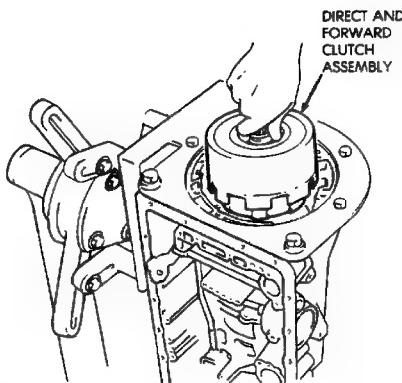

Fig. 31 Removing Direct And Forward Clutch Assembly
(39) Remove direct and forward clutch assembly (Fig. 31).